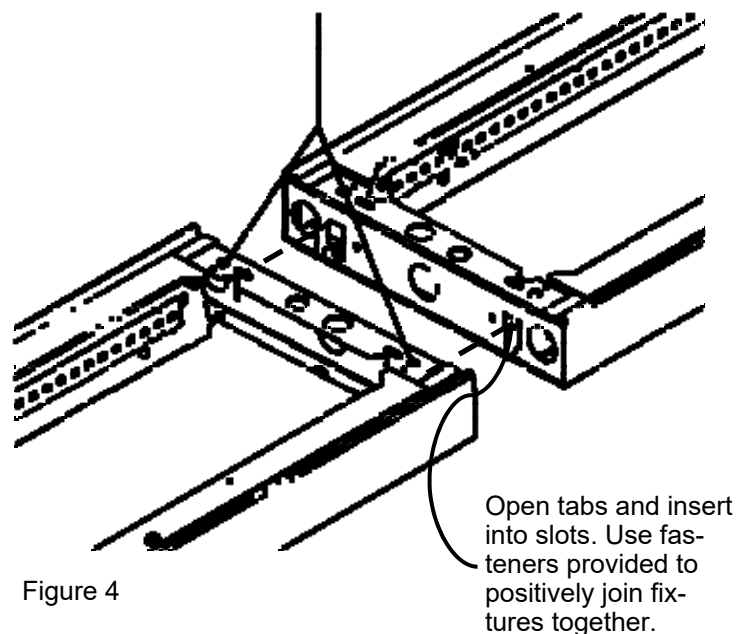

Figure 4
7. Hang the next fixture (type M57) and attach the loose end to previously mounted fixture. Remove cover end plate and top lens (Fig.4). Tighten with #8-32 fastener and nut until fixtures are firmly attached and connect power leads. Reinstall cover end plate and lens.